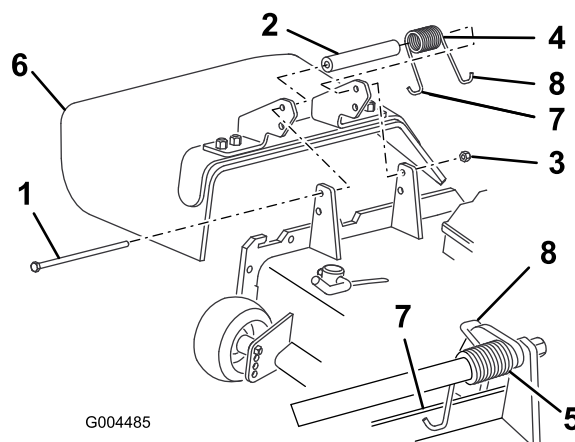

Figure 25
2. Remove the locknut, bolt, spring and spacer holding the deflector to the pivot brackets (Figure 25). Remove damaged or worn grass deflector.
3. Place the spacer and spring between the replacement grass deflector brackets (Figure 25). Place the left hand J hook end of the spring behind the mower edge.
Note: Make sure the left hand J hook end of the spring is installed behind the mower edge before installing the bolt as shown in Figure 25.
4. Install the bolt and nut. Place the right hand J hook end of the spring around the grass deflector (Figure 25).